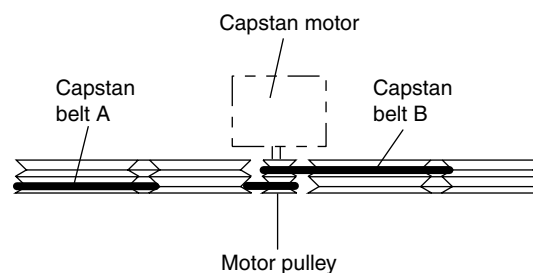

Fig.6
- 2.While raising the capstan motor, remove the capstan belts A and B respectively from the motor pulley (See Fig. 6).
Caution 1: Be sure to handle the capstan belts so carefully that these belts will not be stained by grease and other foreign matter. Moreover, these belts should be hand while referring to the capstan belt hanging method.(See Fig.6 and 7)